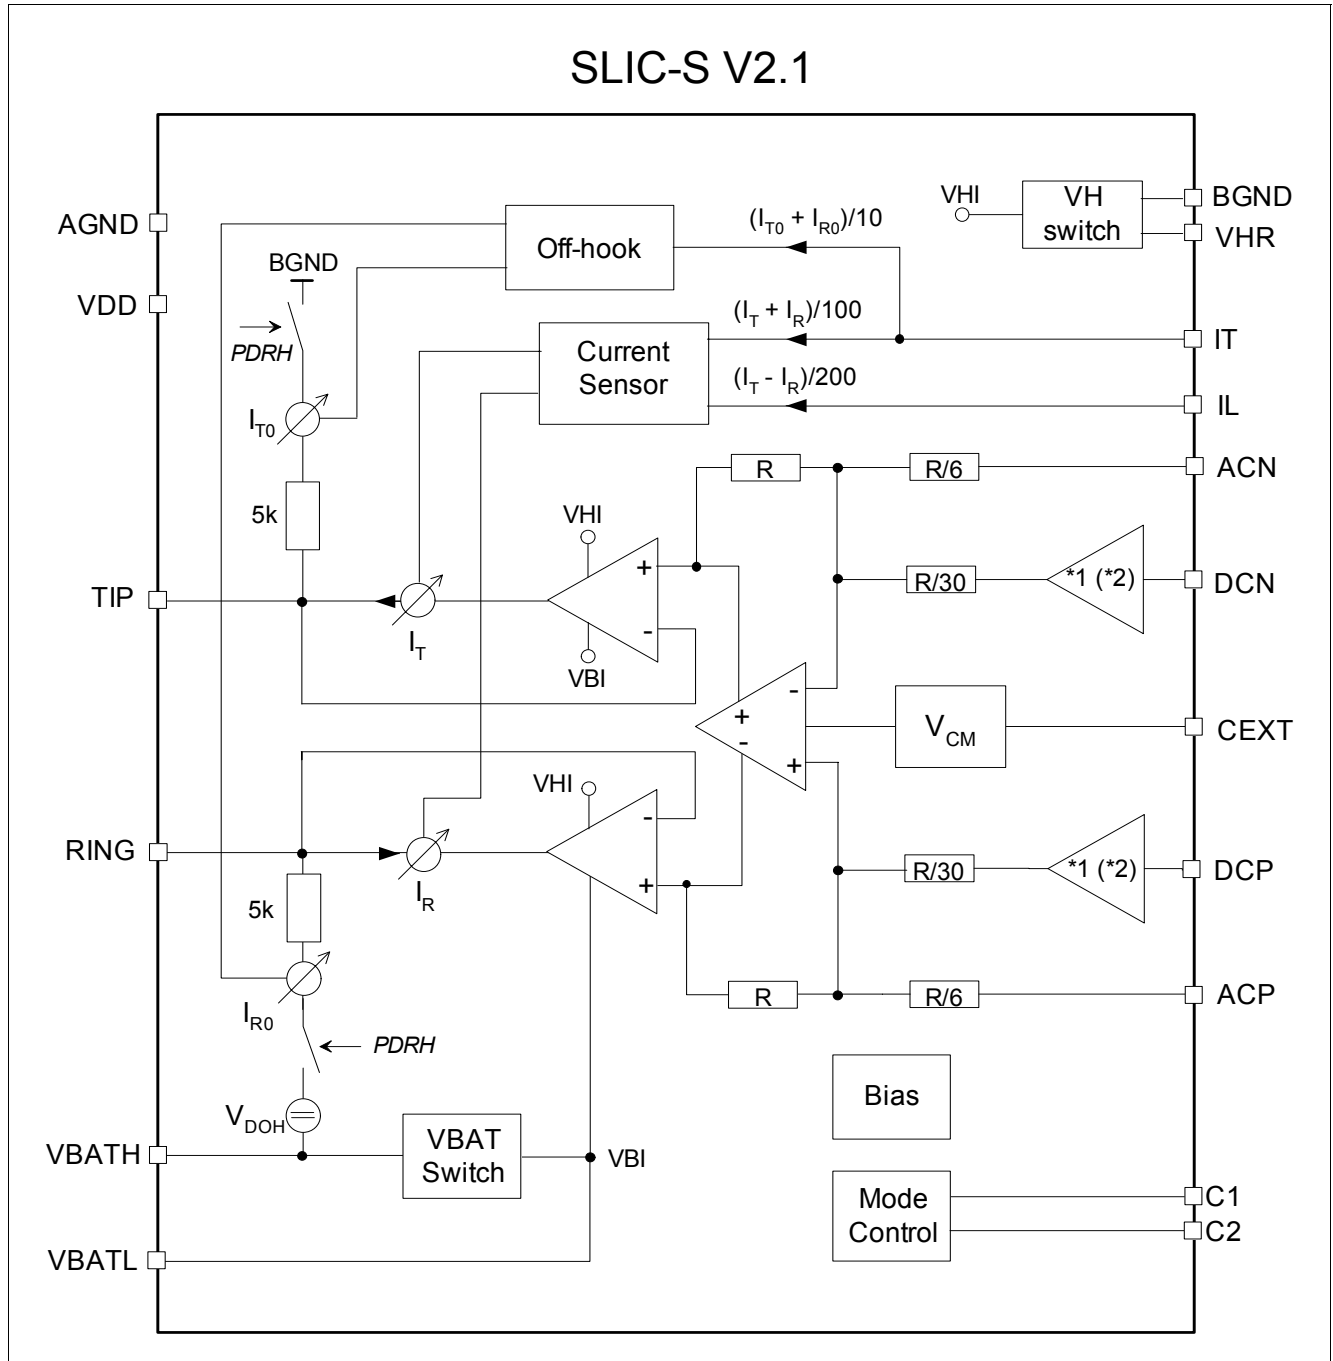

Figure 6 Block Diagram
A functional block diagram is shown in Figure 6.
Power consumption is reduced to a minimum by switching completely off all voice transmission functions. To allow off-hook detection, PDRH provides a connection of 5 k Ω each from TIP to BGND and RING to VBATH, respectively, while the output buffers show high impedance (see Figure 6). The current through these resistors is sensed, scaled by 1/5 and transferred to the IT pin for off-hook supervision.
3) Due to the changed battery switch concept (see **Figure 6**), the VBATL series diode must not be shared between different channels; one diode per channel is mandatory (also for applications with TSLIC-S).